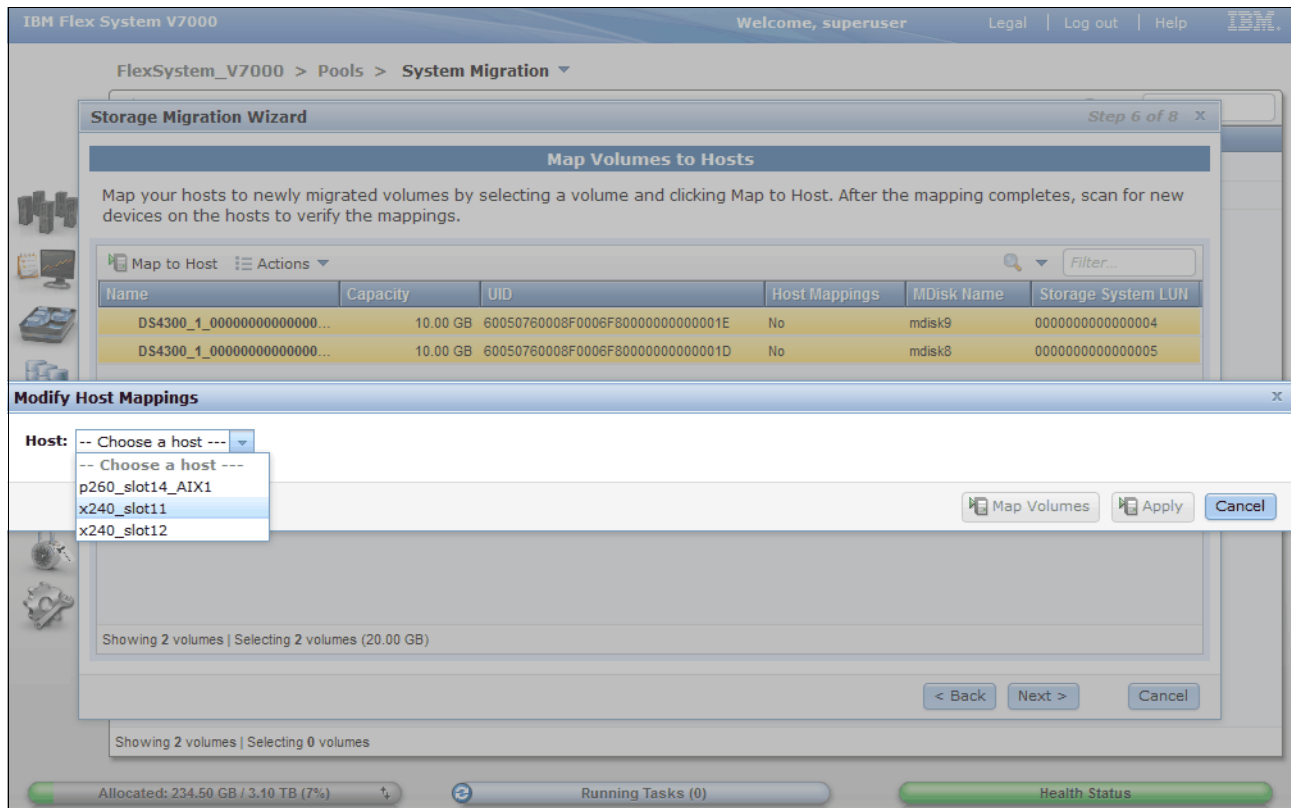

Figure 7-16 Storage Migration Wizard - Map disk to Windows 2008 host
- Select the host you want to use for mapping the volume. Click **Next** to continue with the Storage Migration Wizard as shown in Figure 7-16.